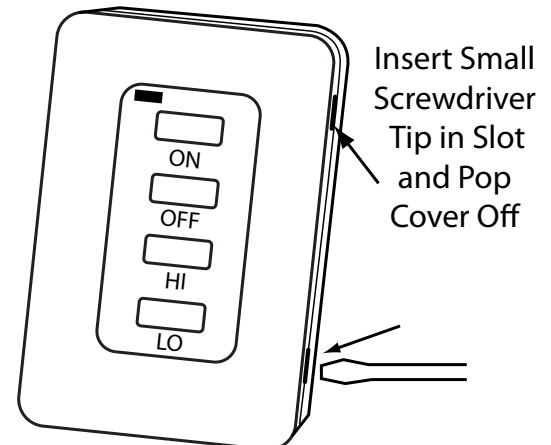

Fig. 2 Front Cover Removal
1. Remove face from backing plate by inserting a small screwdriver into the small slot at the top or bottom of the faceplate as shown then snap OFF (See figure 2). The transmitter operates with (2) 3-volt button (CR2032) cell batteries.
1. Remove face from backing plate by inserting a small screwdriver into the small slot on the side at the top or bottom of the faceplate as shown then snap OFF (See figure 2).
2. Locate the (2) holders for the 3V (CR2302) button cell batteries.
2. Remove the faceplate as shown in figure 2, page 1.